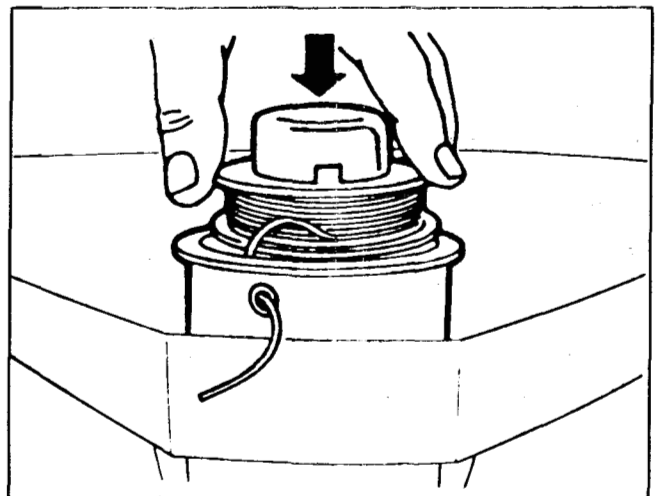

Figure 113
1. Align the keys molded into the core with the eyelet on the drum. It may be necessary to depress the core and rotate to get the keys to line up properly. See Fig. 113